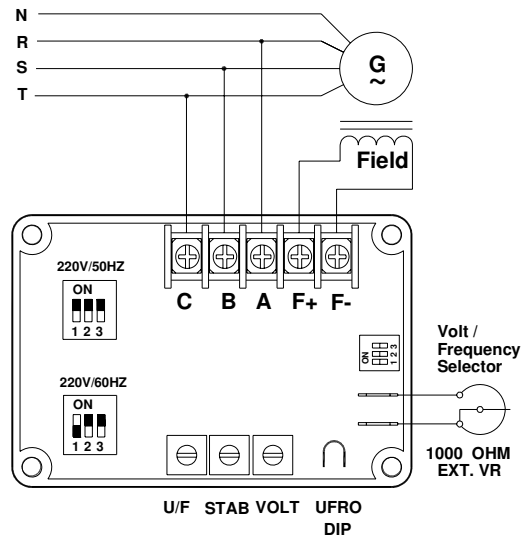
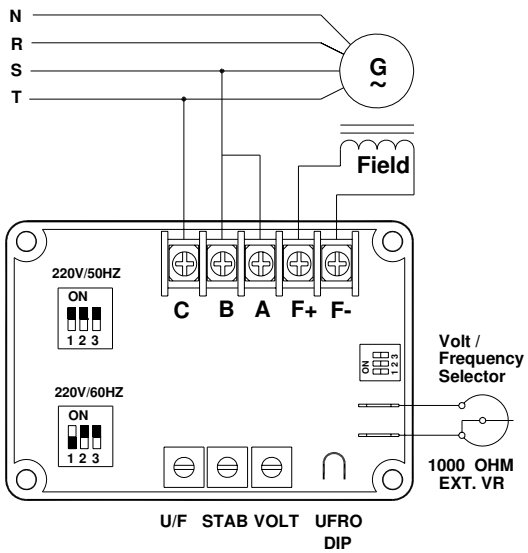

Figure 2
Figure 3
1. When the rated phase voltage of the generator is 220VAC, the input terminals B, C and sensing terminals A, C can join together (as show as figure3. It's the original setting).or connect independent.(as show as figure2).
B,C,F+,F- wires are not connected well.	Please refer to Figure 2 ~ Figure 5.
The exciter flash is too large or wiring doesn't connect well.	Please refer to the Generator Manual. Please refer to Figure 2 ~ Figure 5.